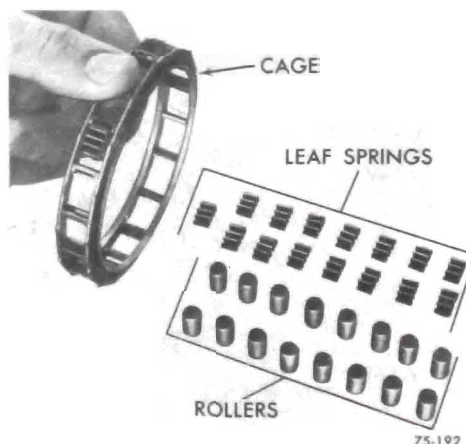

Figure 75-222
5. Remove springs and rollers from low and reverse clutch assembly. See Figure 75-222.